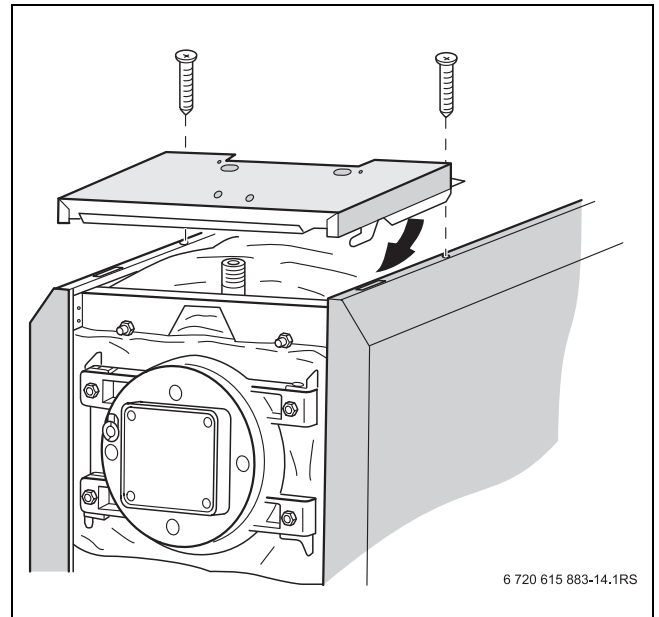

Fig. 16 Fitting the front boiler cover
- ▶ Place front boiler cover on top of the folded edges of the side panels and pull forwards until the right and left-hand hooks click into place in the slot (→ Fig. 16).
- ▶ Screw front boiler cover firmly into the side connection plates by screwing 2 self-tapping screws through the tabs on the boiler cover and the folded edge on the side panels (→ Fig. 16).